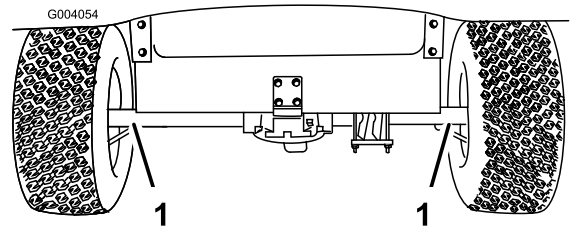
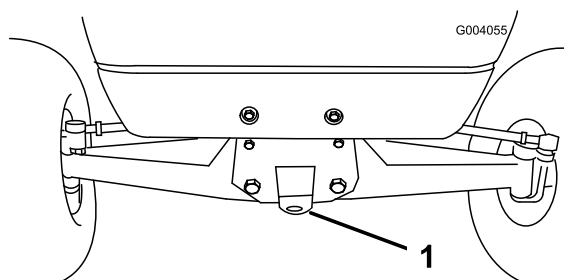

Figure 30
Figure 31
For moving the vehicle long distances, a trailer should be used. Make sure that the vehicle is secured to the trailer. Refer to Figure 30 and Figure 31 for the location of the tie-down points.
2. Affix a tow line to the tongue on the front of the frame (Figure 31).